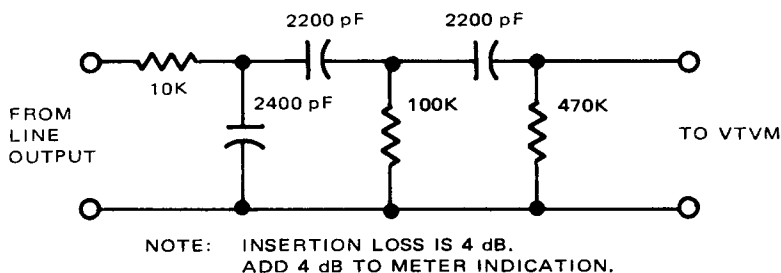

Figure 5-19. ASA 'A' Weighted Filter
If it is desired to obtain ASA 'A' weighted readings, the ASA 'A' weighted filter shown in Figure 5-19 may be used in place of the band limiting filter shown in Figure 5-18. If the ASA 'A' weighted filter is used, it is necessary to correct for the insertion loss of that filter. This may be accomplished by adding +4 dBm to the ac vtvm indication when making the measurements.
- a. Connect an ac vtm through an ASA 'A' weighted filter (Figure 5-19) to the line output connector.